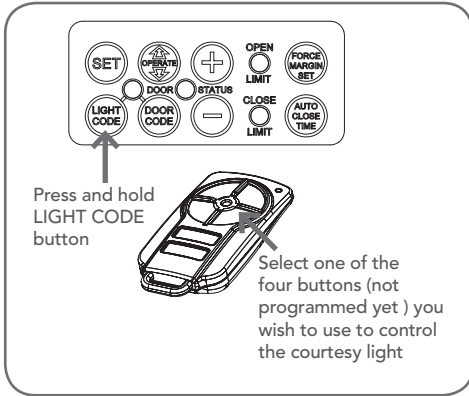
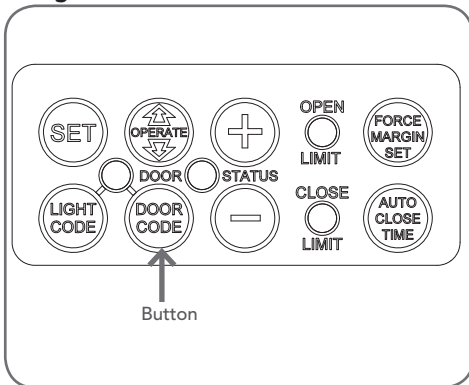

Fig. 8.3
Fig. 8.4
- Press and hold the LIGHT CODE button. The LIGHT CODE LED will illuminate and the courtesy light will turn on to indicate that the light code learning is active (**Fig. 8.3**).
- Choose a transmitter button not already coded into the receiver. Press and hold this button for two (2) seconds, pause for two (2) seconds, then press the same button again for two (2) seconds and release.
- Press and hold the DOOR CODE BUTTON (**Fig. 8.4**).